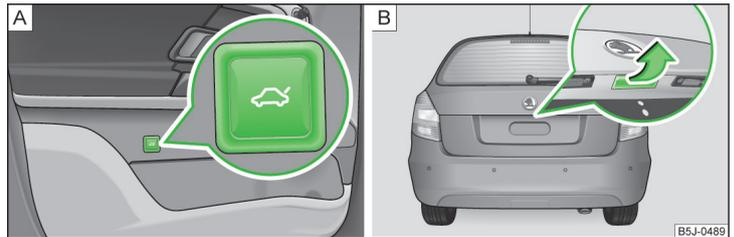

Fig. 35 **Unlock the boot lid/boot lid handle**
- > Press the  button » Fig. 35 in the driver's door - **A** and open the boot lid in the direction of arrow » Fig. 35 - **B**.
- Press the handle and open the tailgate in the direction of the arrow » Fig. 35 - B.